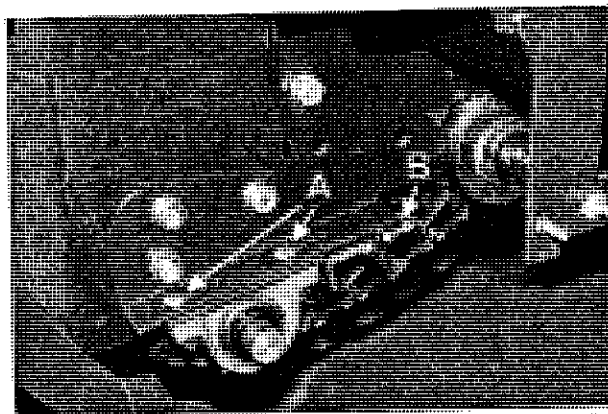

Figure 41. Draper Chain Adjustment for Optional Chain Bed.
Note: If the harvester is equipped with a chain bed, also refer to Figures 41 and 42 on page 34.
Adjust the tension in the draper chains by first loosening the carriage bolts in the bearing hanger bracket (See Figure 41-A). Then set the tension by turning the adjusting bolt (B) at the rear of the bracket. The draper chain should have a 2 to 3" deflection in the lower links.